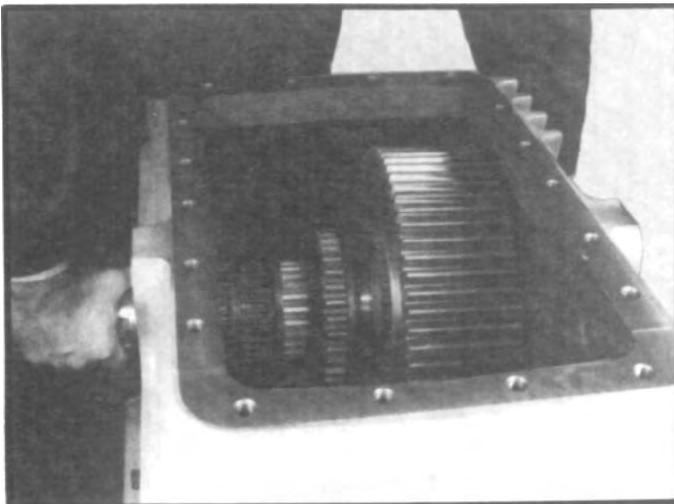

Fig. 100
- 1.6. Install lower shaft assembly into housing through rear bore. (See fig. 100) Insert shaft assembly into underdrive gear. As shaft assembly enters the front bore, place the thrust washer over front of shaft and against underdrive gear. (See fig. 101) Place flat side of thrust washer against the gear.